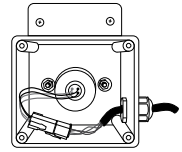

FIGURE 2
- Once the UV bulb has cooled off remove the ClearRay® unit enclosure cover (9) and gasket (8) by removing the four screws (10). This will expose the UV bulb and connections, Figure 2.